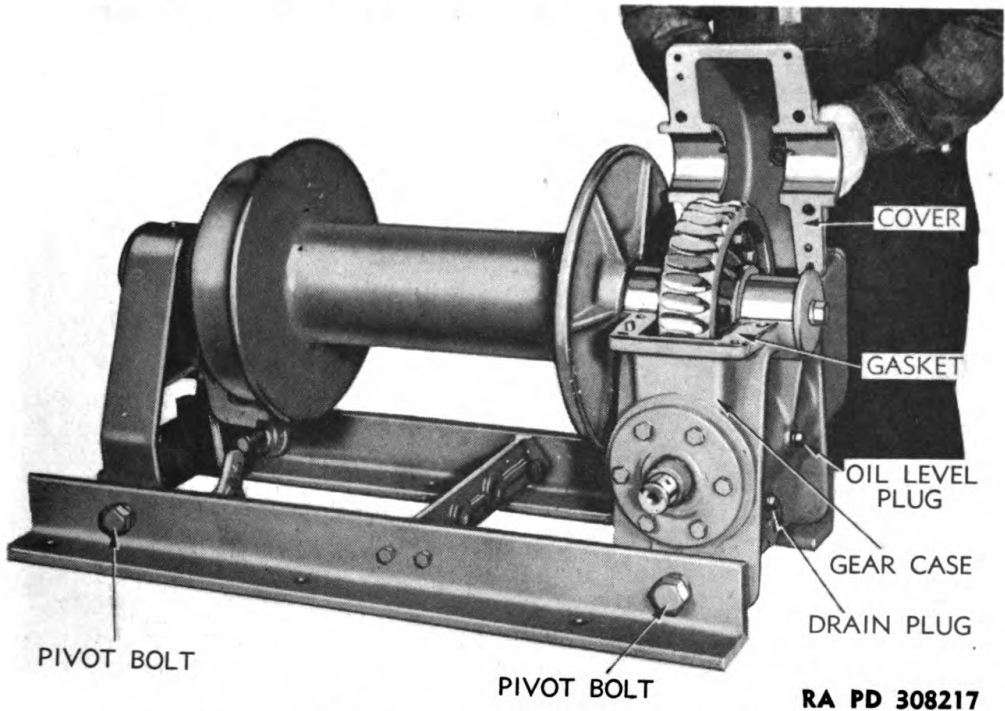

Figure 115 – Removing Gear Case Cover
c. Remove Winch Drum and Shaft Assembly. Turn winch right side up. Remove eight bolts from gear case and cover and lift cover from gear case (fig. 115). Remove the two pivot bolts from end frame and winch base angles, attach hoist and chain to winch drum, and lift drum shaft assembly and end frame from base (fig. 116).
(1) Remove drain plug from gear case (fig. 115) and drain oil from case. Replace plug after oil is drained.
(3) Coat both sides of gear case cover gaskets with shellac and install cover on gear case (fig. 115) with four bolts close to shaft and four bolts in corners of cover and gear case.